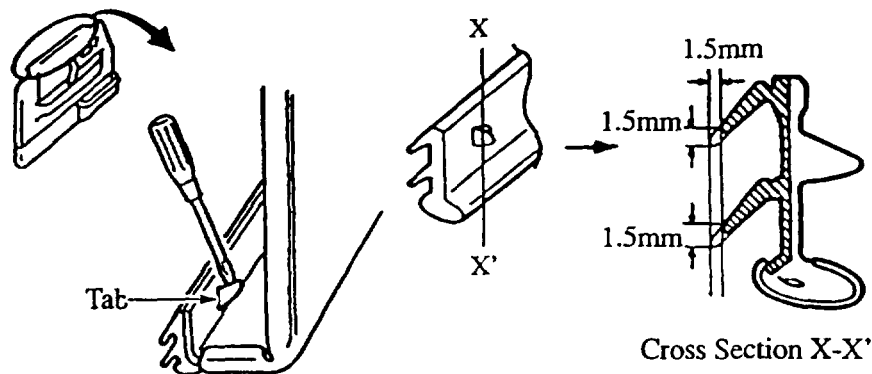

Figure 4: Top of inner door panel.
3. Replace glass inner weatherstrip with new strip. Figure 4.